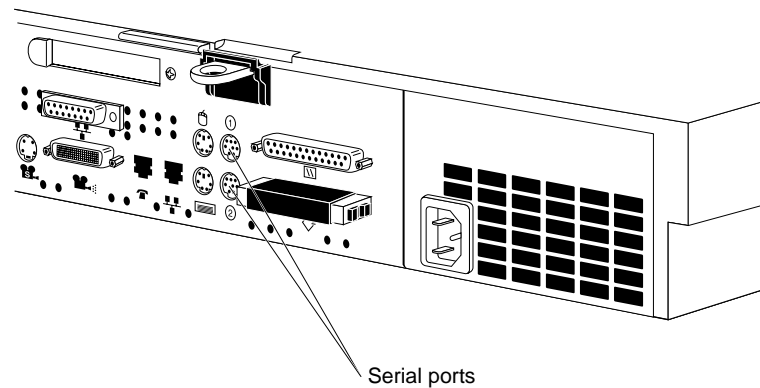

Figure 5-11 Serial Ports on the Rear of the Indy Workstation
2. Locate the serial ports on the back of the Indy workstation, as shown in Figure 5-11.